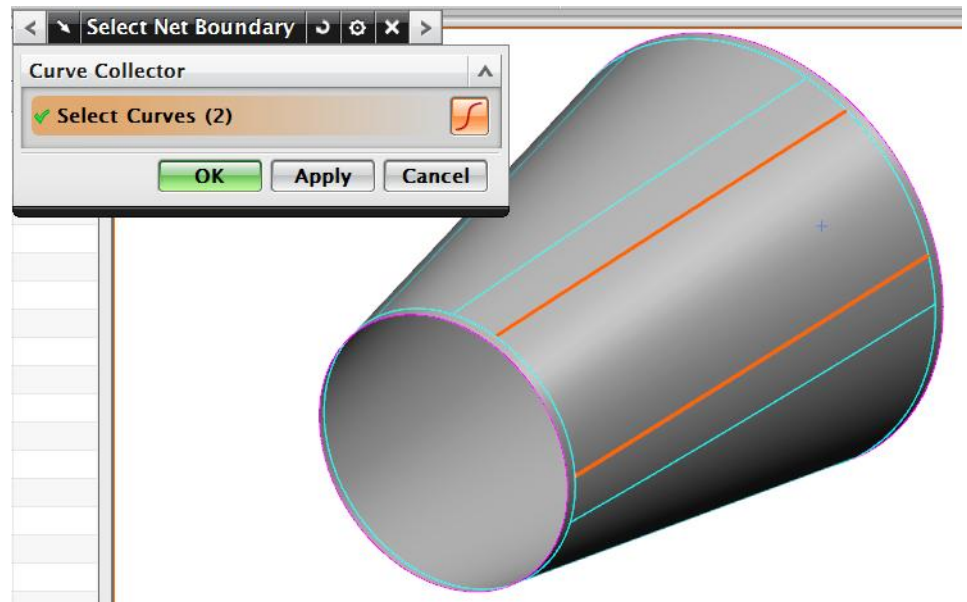

Figure 6–37
4. Clear the existing splines by <Shift> selecting and select the two new fiber path curves, as shown in Figure 6–37.